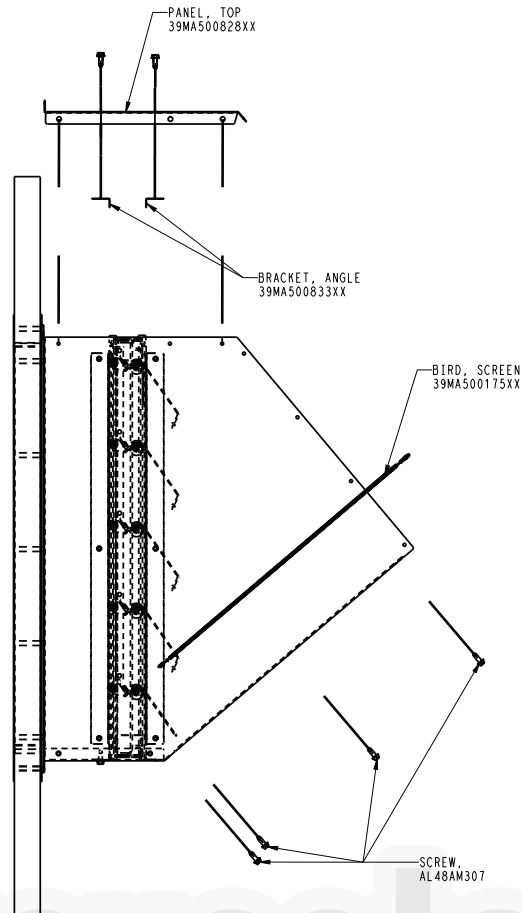

Fig. 76 — Attaching Bird Screen and Top Panel
13. Attach bird screen to the inside of the hood using the $\frac{1}{4}$ in.-14 x $\frac{5}{8}$ in. long sheet metal screws (without neoprene washer.) Also, attach brackets to top panel, then attach top panel to power exhaust assembly. See Fig. 76.